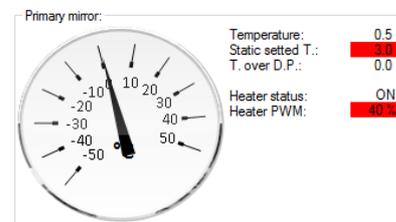

Fig. 28: PWM over 30%
- Heater PWM: the power that ATC use to drive the heater. As told in previous chapters if this is over 30% can cause mirror deformations so, in this particular case, the label has a red background (Fig. 28).